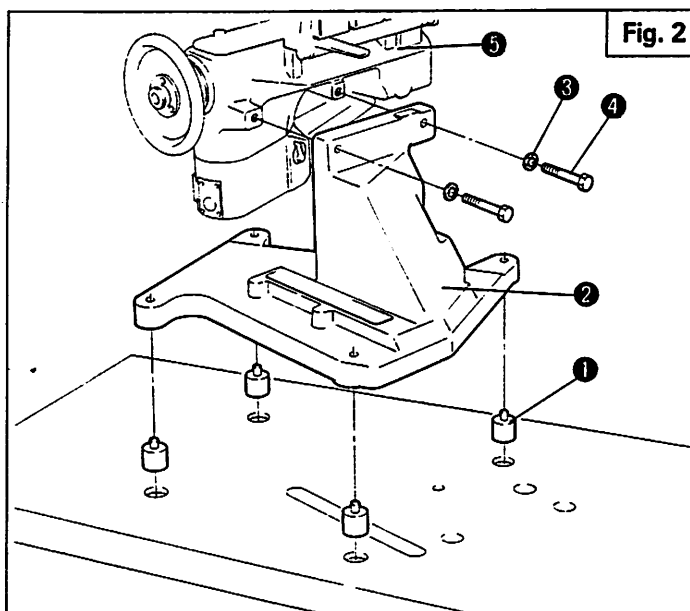

Fig. 2
2. Refer to Fig. 2 and install the machine ① – ⑤ in sequence.